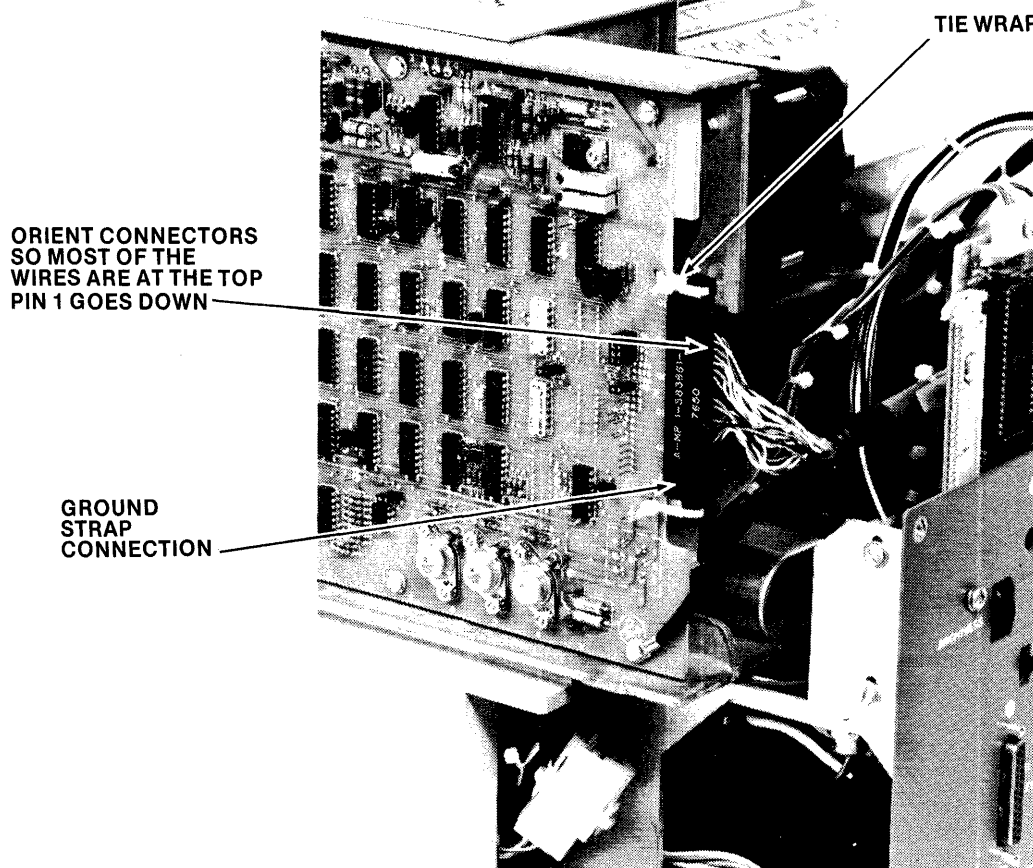

Figure 8. Integral Drive Cable Connector orientation
11. Connect P2 of the double density controller cable to the drive's control/signal connector, with pin 1 of the connector down. Check figure 8 for the proper orientation of the connector. Secure the connector to the drive control board with tie wraps passed through the holes in the connector and holes in the board that are close to the connector.